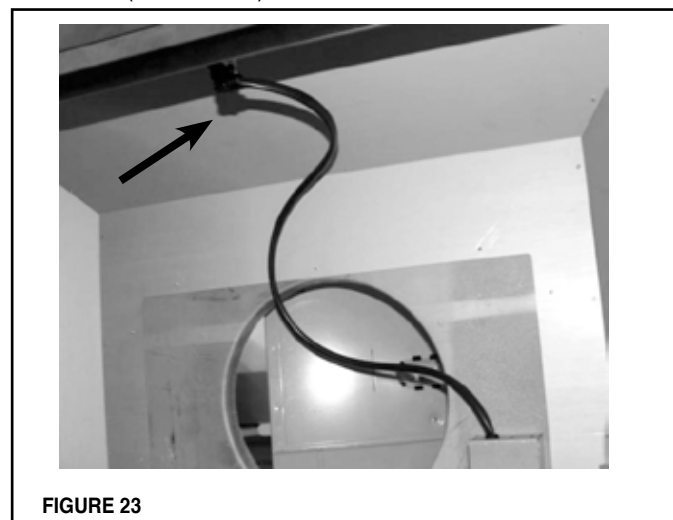

FIGURE 23
3. Connect the wire coming out of the wiring box on the top duct plate to the light panel 6 hole slot connector on the front inside of the hood (FIGURE 23)